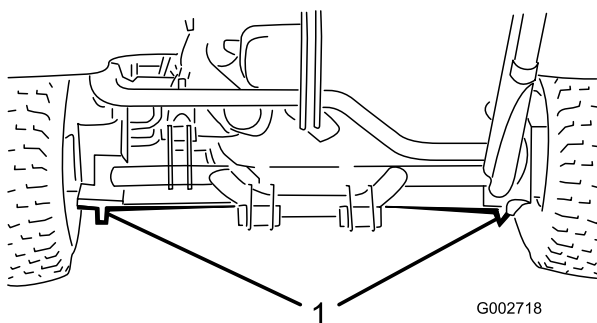

Figure 18
- Left or right side—under the rear wheel motor or the frame (Figure 18).